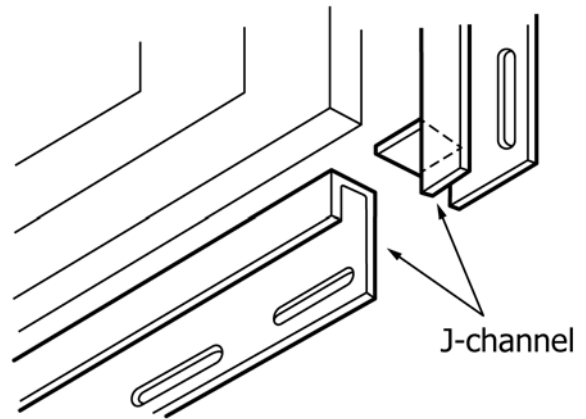

FIG. 10 Installation of Bottom and Side J-Channels under Window (for clarity, 45 degree miter of side J-channel is not shown)
9.2.3.5 Install the bottom J-channel. Install each of the side J-channels, with the mitered visible face over the face of the bottom J-channel. Bend the tabs in the side J-channels into the bottom J-channel. (See Fig. 10.)